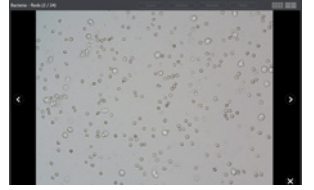

Figure 10
1. To examine images closer, double-click on the image of interest. Figure 10